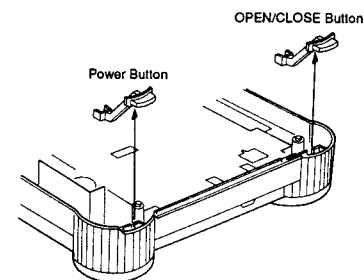

Figure 6
(1) After removing the top case, the CD-ROM drive and the power transformer, raise the power button and the open/close button as shown in Figure 6.